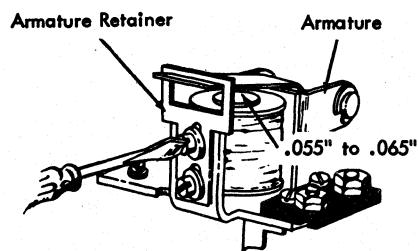

Figure 69. Offset Stack Magnet Adjustment
1. Adjust armature retainer (Figure 69) for .055-inch to .065-inch armature-to-core clearance when magnet is de-energized. When magnet is energized, armature-to-core clearance should be .005-inch to .015-inch.
1. Adjust armature retainer for .060-inch to .070-inch armature-to-core clearance (Figure 69).